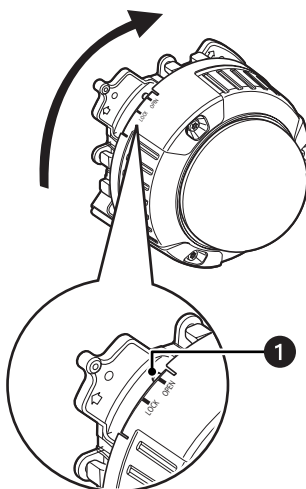

Figure 13. Securing the Camera to the Camera Attachment (Surface Mount)
- b. Engage the camera's attachment mounting screws with the mounting holes on the camera attachment, and then rotate the camera in the direction of the arrow to the LOCK position to secure the camera to the camera attachment without any backlash (refer to Figure 13).